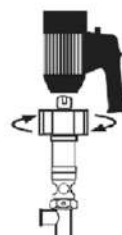
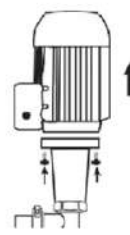

Figure 3
Figure 4
4. Remove motor from pump tube. For models HD-HV250: loosen Hex Nut in clockwise rotation (see Figure 3). For models HD-HV1000: loosen (4) bolts that attach the pump to the motor (see Figure 4).